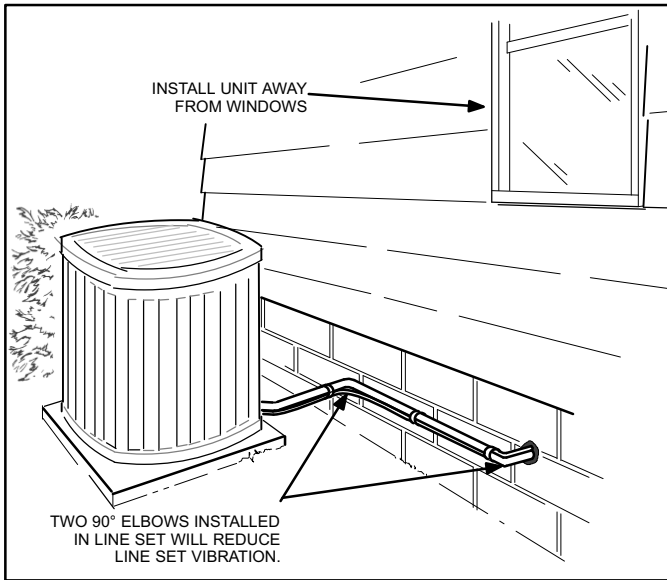

Figure 9. Outside Unit Placement
- When possible, do not install the unit directly outside a window. Glass has a very high level of sound transmission. For proper placement of unit in relation to a window see the provided illustration in Figure 9.